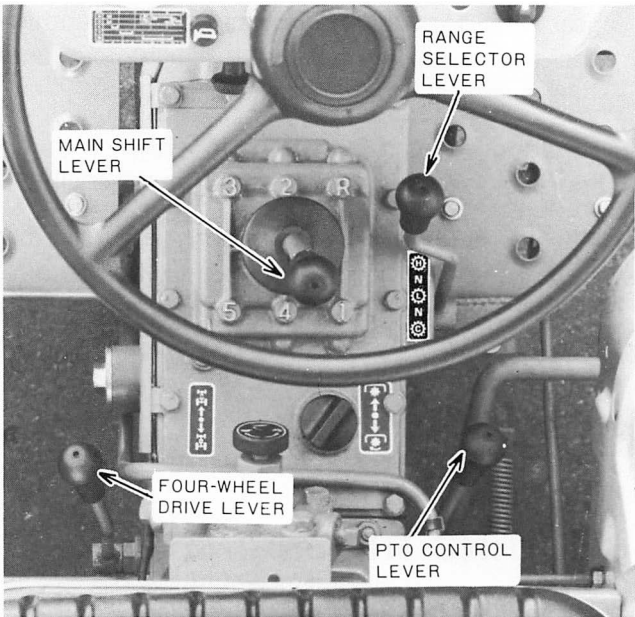

Figure 16 – Transmission Controls and Shift Pattern
The transmission operates through the use of a clutch pedal, a main shift lever and a range selector lever. Figure 16 illustrates the pedal and levers involved. Ground speeds for the various gear ratios can be found on page 50. Figure 17 shows the combinations of main shift lever and range selector lever positions to obtain the 10 forward and two reverse speeds.
The four-wheel drive is engaged and disengaged through the use of the lever on the top lefthand front of the rear-axle center housing, Figure 16.
The transmission P.T.O. is controlled through a lever shown in Figure 16. The transmission P.T.O. can be engaged, operated, and disengaged as described under "POWER TAKE-OFF OPERATION."
- Disengage the P.T.O. with the P.T.O. control lever, Figure 16.
3. With the transmission in neutral, depress the clutch pedal completely, then engage the P.T.O. by moving the P.T.O. control lever, Figure 16, fully up or rearward.